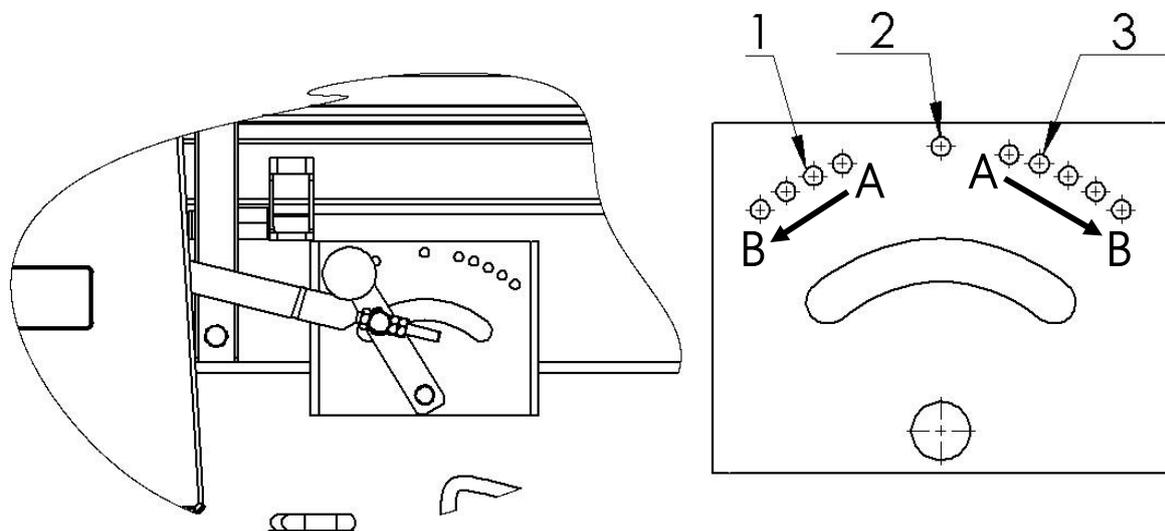

Figure 5. Conveyor's adjusting lever.
The lime attachment is an agricultural machine adapted for inter-operation with N-233 series spreaders, for spreading lime. The approximate spreading range is a semi-circle with a diameter of about 7 meters (see Fig. 5). The range may differ according to the granulation, looseness and moisture content of the spread lime.
- set travel speed (fig. 5).
- in the event of improper feeder feed rate, set the adjusting lever to the proper position (fig. 5). Feed rate is changed by switching the lever from neutral position (item 2, fig. 5) – the closest holes (item A, fig. 5) correspond to the lowest speed, and the farthest - the highest speed (item B, fig. 5).